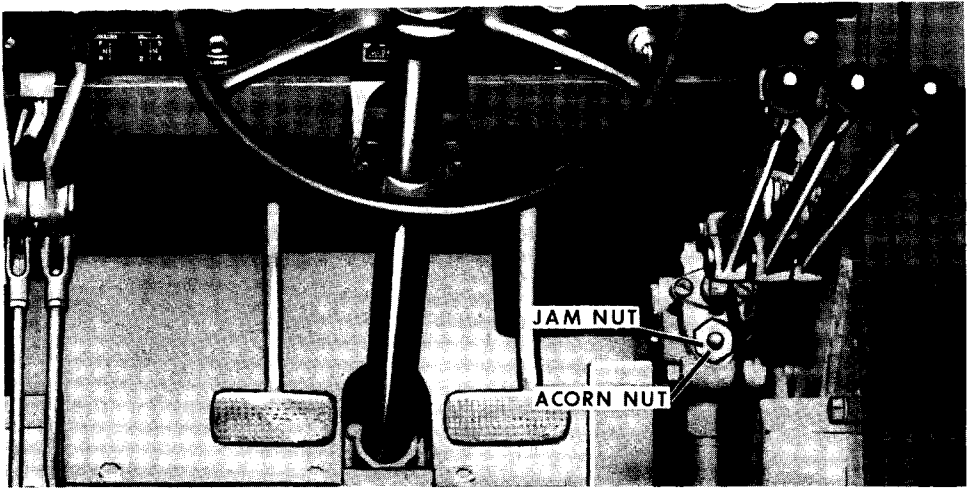

Figure 75
- A. Remove the acorn nut from the relief valve and loosen the jam nut, Figure 75.